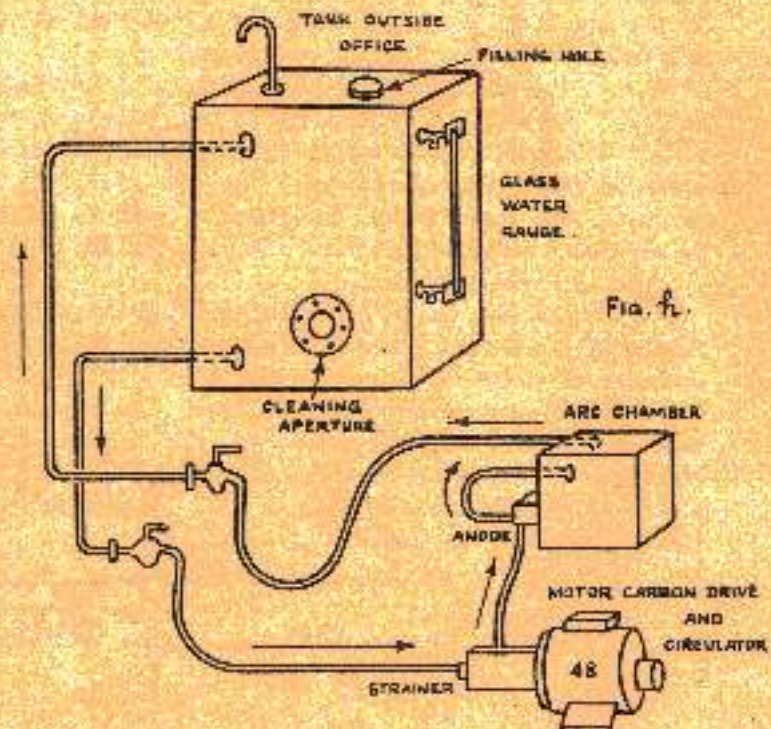

Fig. 7
This protects the A.C. supply circuit and machine by acting as a by-pass for the arc oscillatory current. The arc starter (91) consists of a 30 ohm resistance in each lead, which is gradually cut out as the arc length is extended (see under "Working and Tuning"). The electrodes are positive (110), negative (111). The positive or anode is a water cooled copper tip, a water system (figure 7.) being employed, which cools the arc chamber and the anode. The negative or cathode is a carbon, which is revolved by the motor (41). Care should be taken that when a new copper anode tip is fitted, the plug which is soldered into it, should be on the underside.